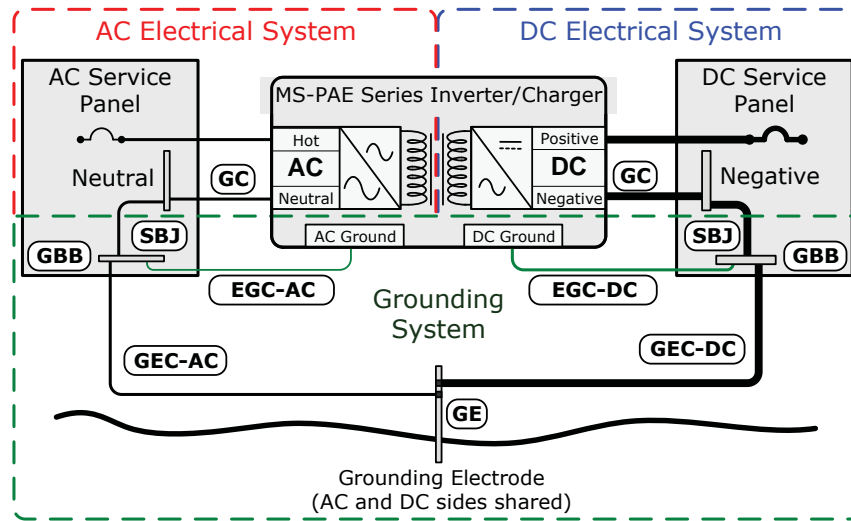

Figure 2-14, Method 2 – DC Ground Rod with Multiple Connections (using a single grounding electrode)
Method 2 (see Figure 2-14): When the AC and DC service panels are near each other, then the AC grounding electrode conductor (GEC-AC) and DC grounding electrode conductor (GEC-DC) can be connected to a single grounding electrode (GE). In this method—since there are multiple connections to the DC grounding electrode—the size of the DC grounding electrode conductor (GEC-DC) cannot be smaller than the largest conductor in the DC system (usually the battery-to-inverter cable).